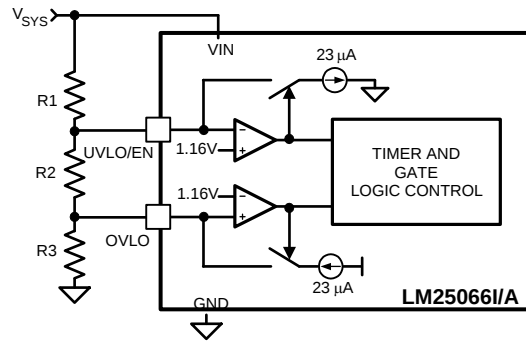

Figure 41. UVLO and OVLO Thresholds Set By R1-R3
**Option A:** The configuration shown in Figure 41 requires three resistors (R1-R3) to set the thresholds.